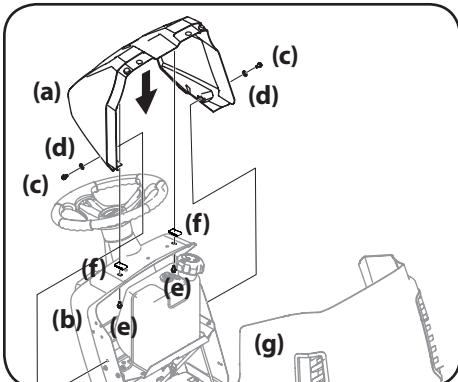

**Figure 2-7**
- If the dash shroud (a) was shipped loose, the hardware for attaching the dash shroud (a) is shipped installed in the dash (c). Remove the two bolts (b) from the dash (c). See Figure 2-7.
- Mount the dash shroud (a) and align the mounting holes. See Figure 2-7.
- Secure the dash shroud (a) to the dash (c) with the bolts (b) removed in Step 1. See Figure 2-7.